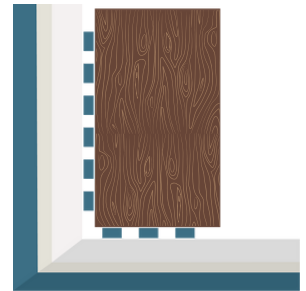

Fig. 1
- Position the first plank with the tongue side facing the wall, using 1/4" spacers for expansion. **(Fig. 1)**